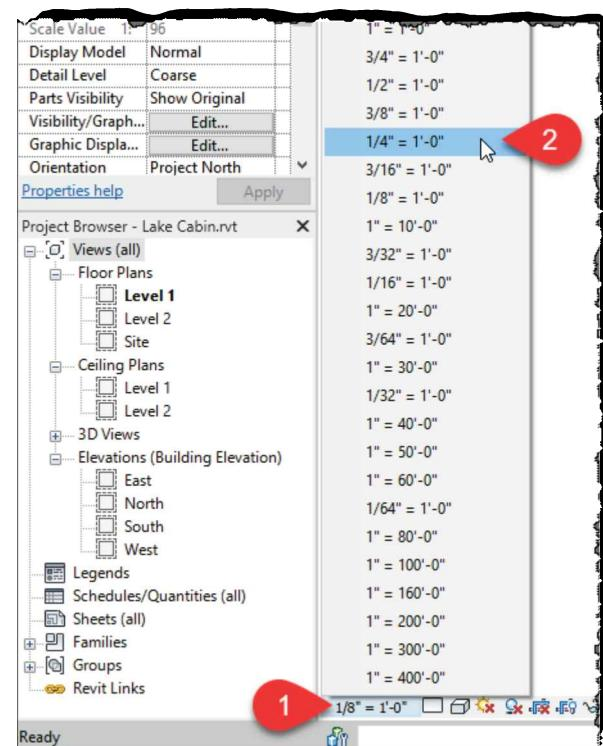

FIGURE 2-5.4 Changing View Scale
6. In the pop-up menu, which lists several standard scales, select $\frac{1}{4}'' = 1'-0''$ (Figure 2-5.4).